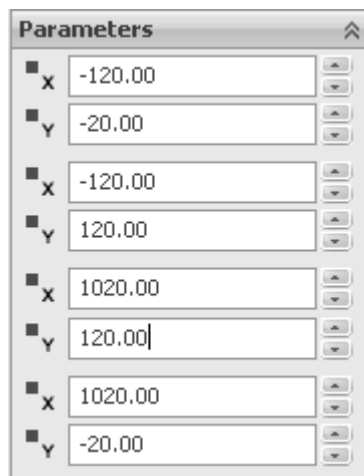

Figure 2.4 Dimensions of second larger rectangle
- Repeat steps 2 and 3 but create a larger rectangle outside of the first rectangle. Dimensions are shown in Figure 2.4.